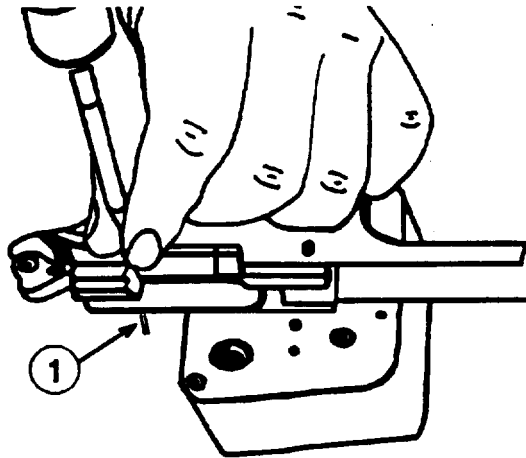

Figure 6-14. Removing Ejector Pin
6-11. EJECTOR AND EJECTOR PIN (Figures 6-14 thru 6-16)
(2) Using a 1/16" punch and 4 oz hammer, drive the ejector pin (1), Figure 6-14, from the left side of the pistol out through the right side of the pistol.
(2) Inspect ejector pin (1), Figure 6-14, for wear and burrs. If worn or burred, replace ejector pin.